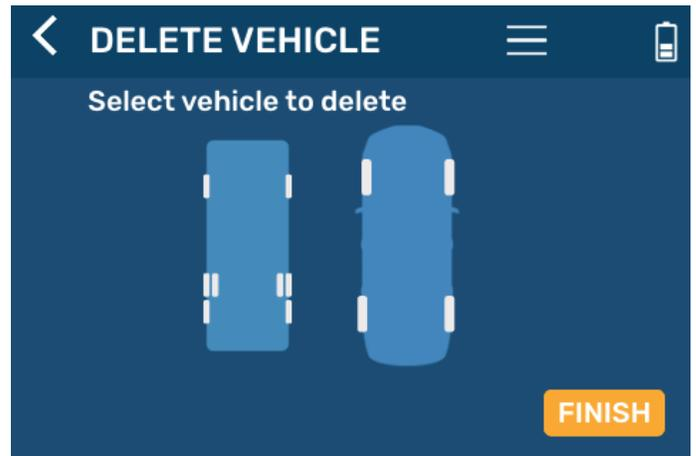

Fig.35
4. Select another vehicle to delete or tap FINISH (Fig.35) to return to the main tire pressure screen.